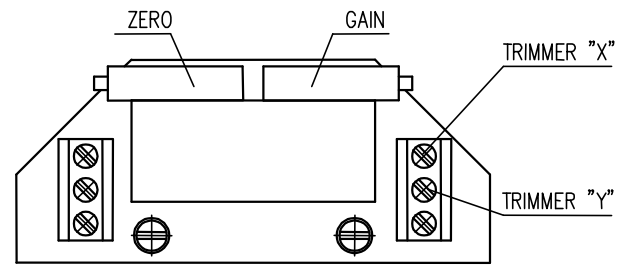

Fig. 6
#### 4.4.2 EPV – 3-wire version (Fig. 6, 6a)
- Adjust the resistive transmitter according to the previous chapter. The resistance is to be metered on the terminals X-Y, resp. 0%-100% (Fig. 6, 6a). The used transmitter resistance is 2000  $\Omega$  or 100  $\Omega$ .